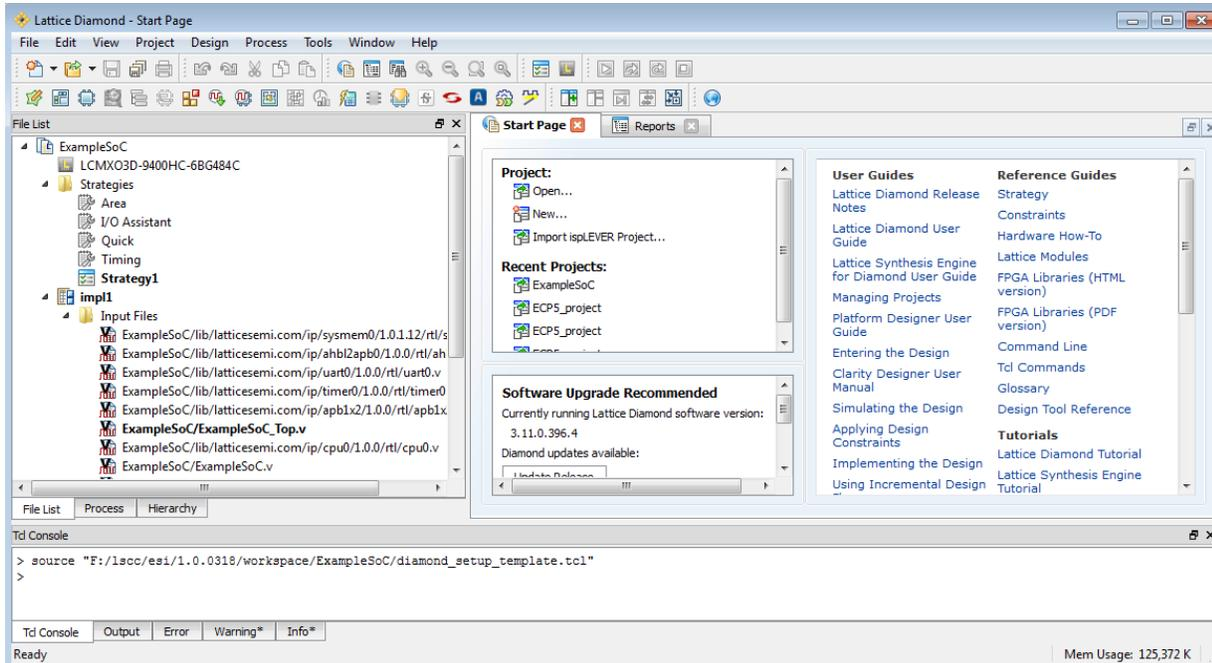
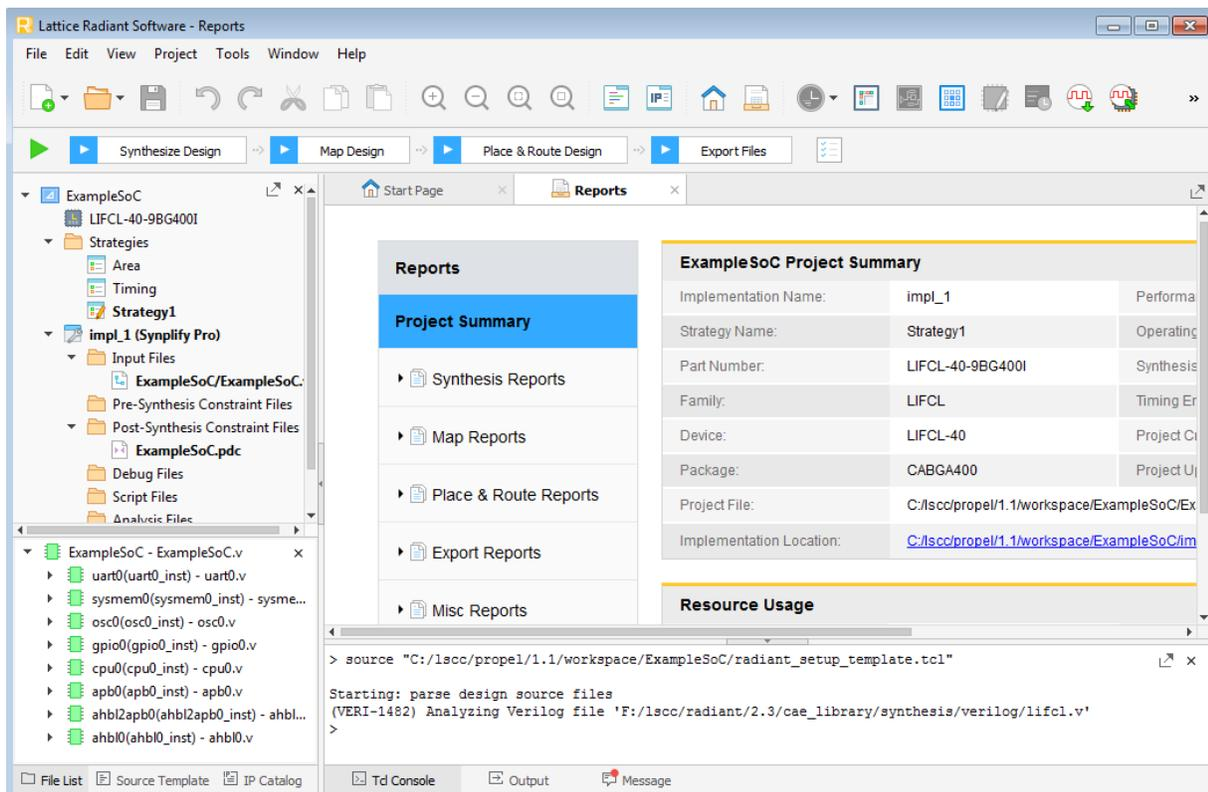

Figure 3.12. Diamond Project
Figure 3.13. Radiant Project
4. Diamond/Radiant project for SoC is generated at background and is launched (Figure 3.12/Figure 3.13).